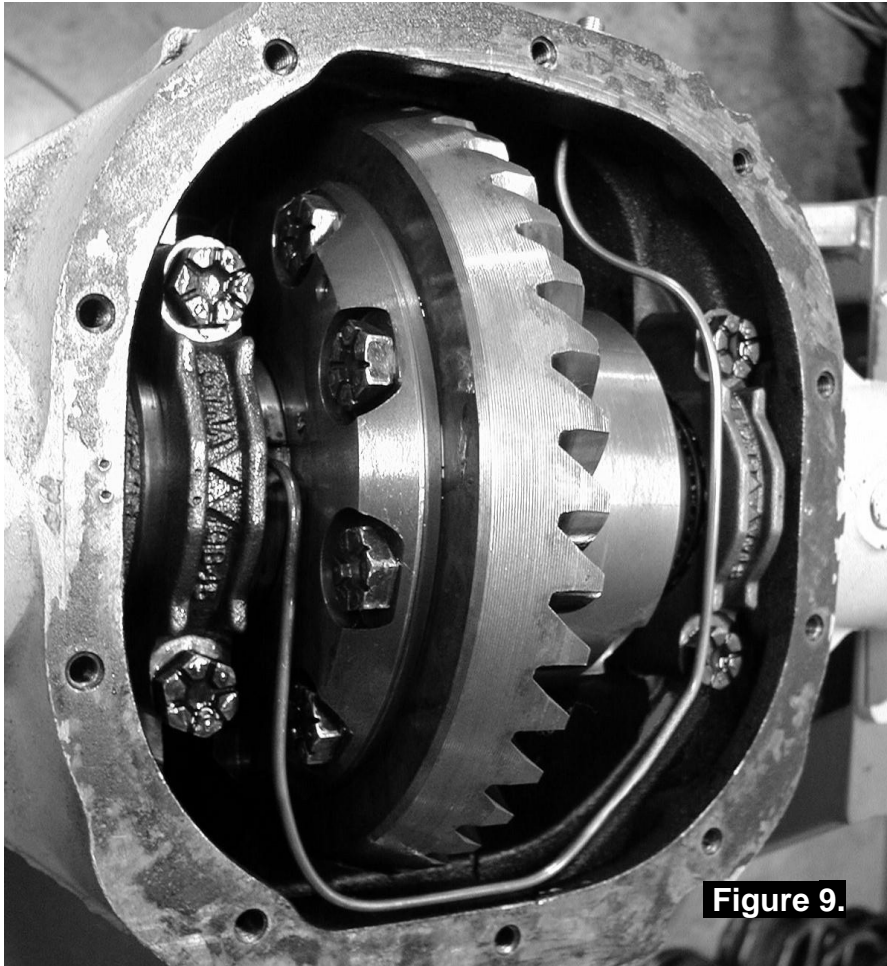
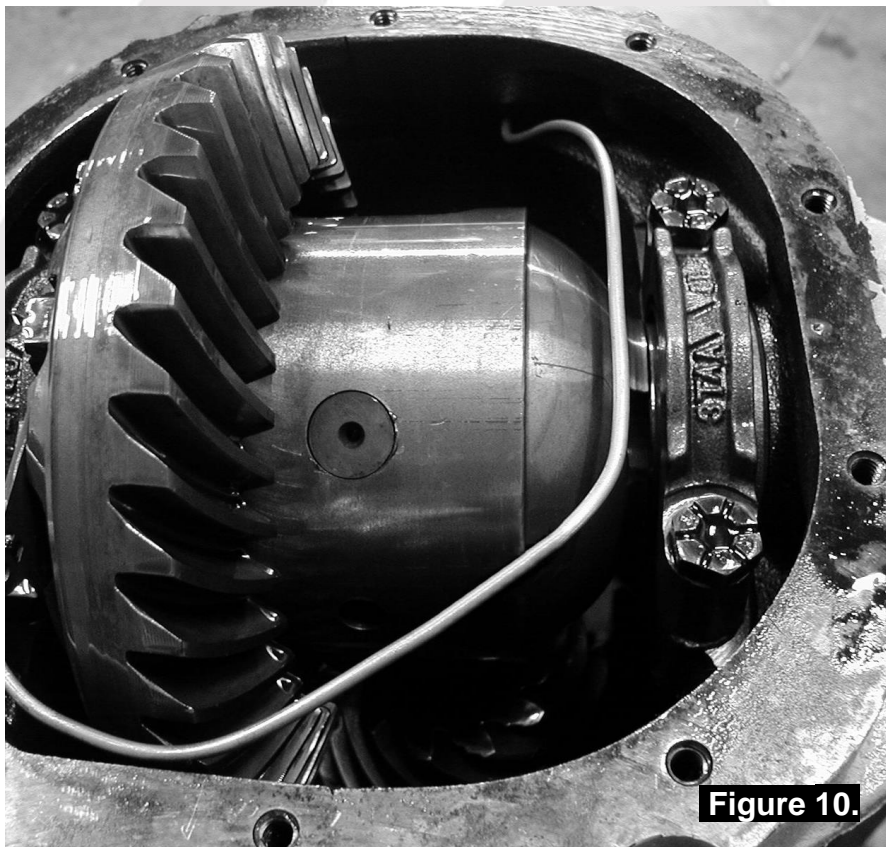

Figure 9.
Figure 10.
- Without using sharp, jagged tools such as pliers (usually your hands are the best tool for this job), bend the seal housing tube so that it runs under the ring gear and upwards protruding through the bulkhead port in the differential housing. (Fig. 9. & Fig. 10.)